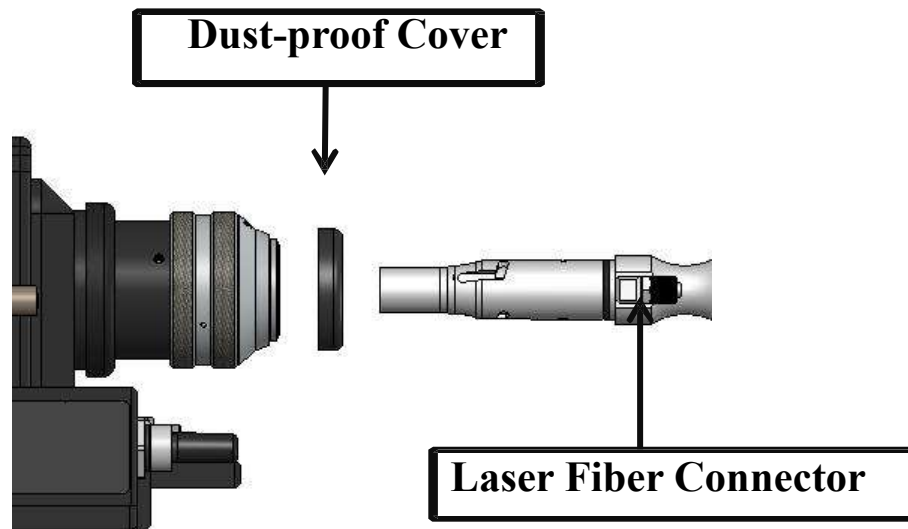

Figure 1.6
- ① Put the welding head horizontally, remove the white cover and static sticker, and then take out the dust-proof plug and dust-proof cover, as shown in Figure 1.6: